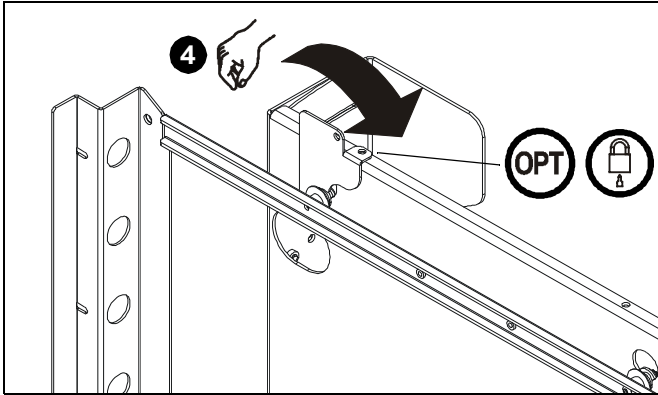

Figure 9
- Rotate Q-Latch to the CLOSED position (See Figure 9).